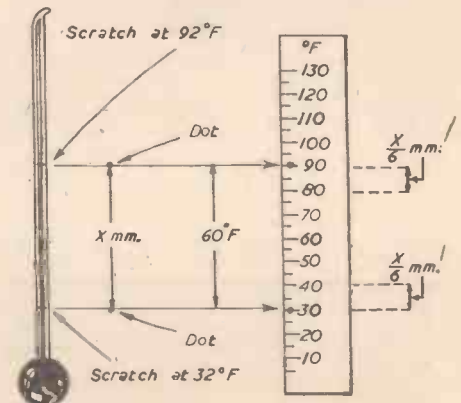

Fig. 15.—The marked thermometer and scale.
The reader will observe that between these two points there lies 60 deg. or six divisions of 10 deg. each. The scale is made from this information (Fig. 15).
It is assumed that you do not have a standard thermometer and are using Method B. It is also assumed that the completed thermometer has a scratch at 32 deg. and another at 92 deg. Refer to Fig. 15 and proceed as follows:—
4. The scale can now be made as in Figs. 15 and 16. The long lines are made 5 mm. apart in the example above. These marks are then divided in half by somewhat smaller lines. If you wish to make a very accurate instrument these lines must then have four equally spaced dots placed between them. The scale may now be marked from, say, 10 deg. to 130 deg. F. as shown.